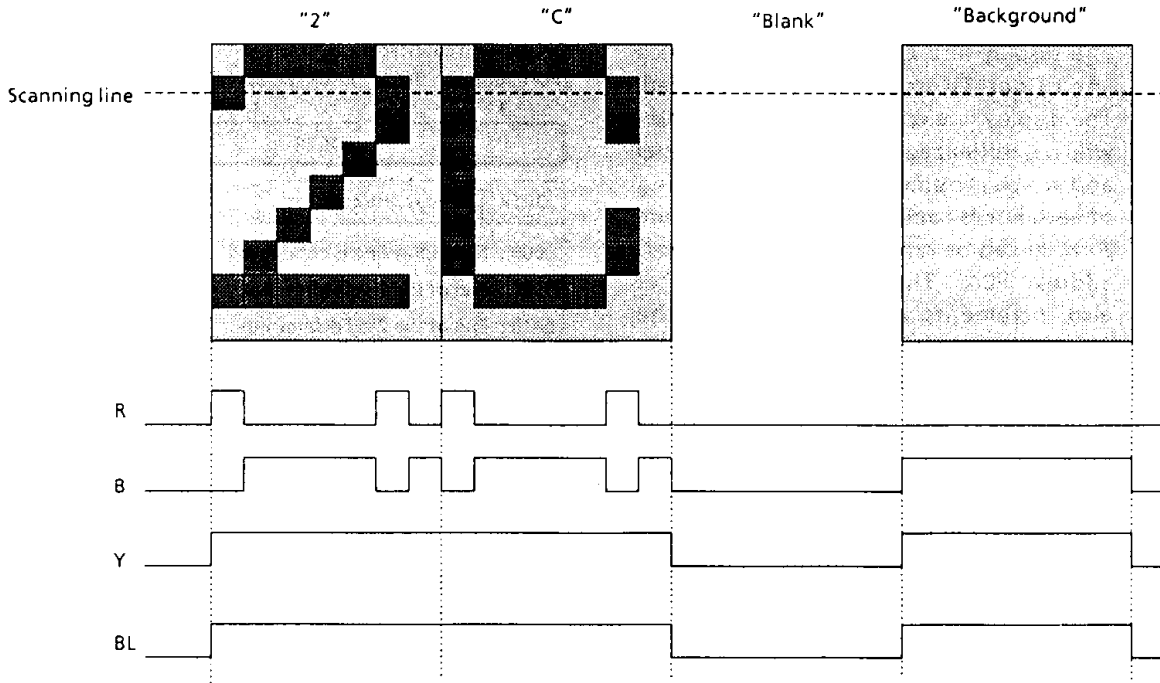
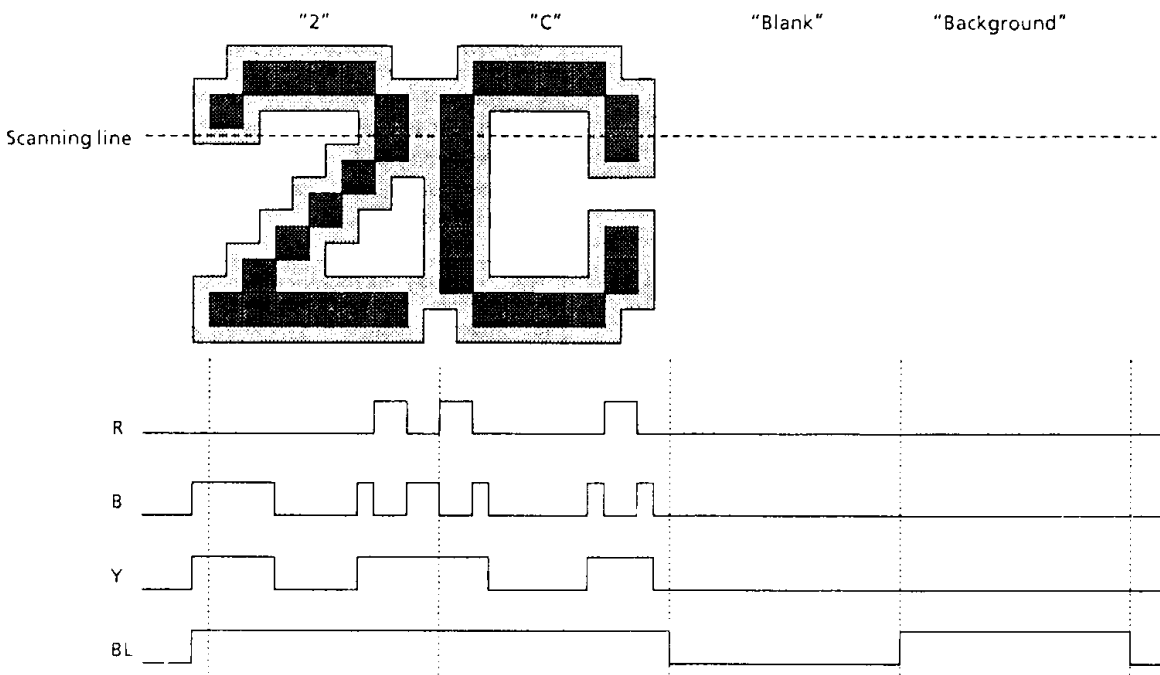

Figure 3-15. Example of OSD Display and Its Wave Form (1)
Figure 3-16. Example of OSD Display and Its Wave Form (2)
Figure 3-15 shows display example (1). The conditions for this example are as follows:
- ① Display data: 2, C, blank data (character code 7F_H), background (character code 7E_H).
- ② Color data: RDT = 1, BDT = 0, GDT = 0.
- ③ Background color data: BRDT = 0, BBDT = 1, BGDT = 0.
- ④ Fringing and smoothing disabled.
- ⑤ This screen display example is controlled by the R, B and BL signals.
Figure 3-16 shows display example (2). The conditions for this example are as follows:
- ① Display data: 2, C, blank data (character code 7FH), background (character code 7EH).
- ④ Fringing enabled and smoothing disabled.
- ⑤ This screen display example is controlled by the R, B and Y signals.